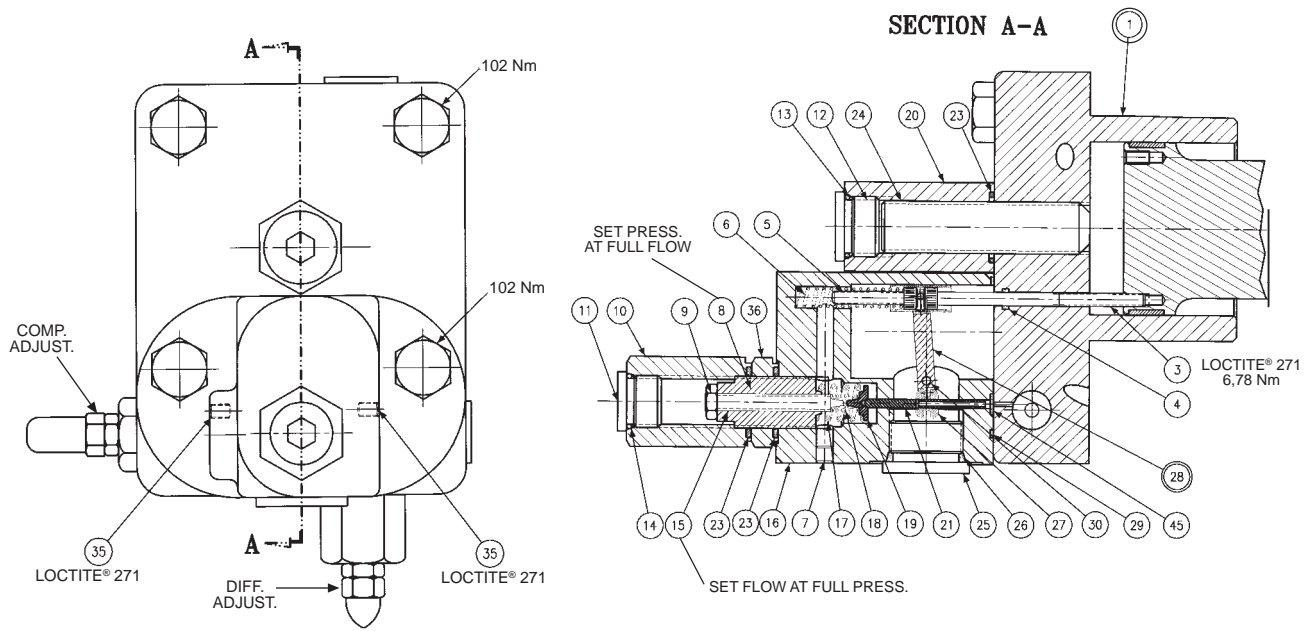
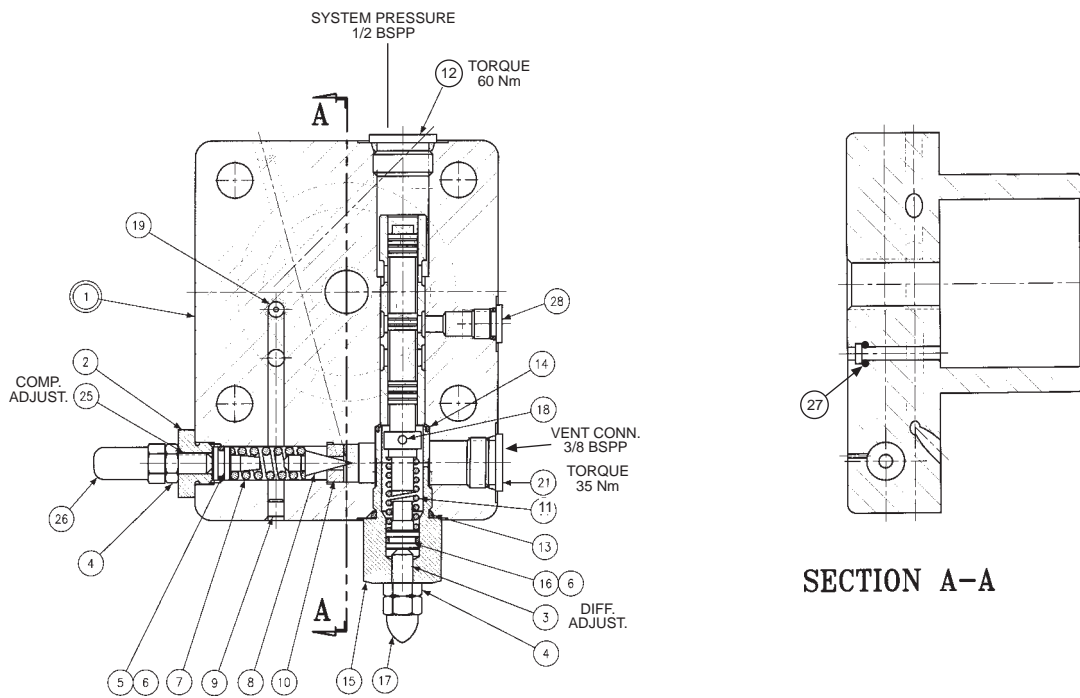

FIGURE 12 – TORQUE LIMITER ASSEMBLY
FIGURE 13
1. **See Figure 12.** Remove 2 screws holding Torque Limiter body (16) to cap assembly (1).
2. Remove all parts from torque limiter body (16) except pin (30) and arm assembly (28). It is not necessary to remove these parts unless broken or worn. Examine parts for wear or damage.
3. Remove screw (3). Examine head for excessive wear, and body for smooth sealing surface with O-ring.
5. Remove cap assembly (1).
6. **See Figure 13** Remove plug (15) and attached parts. Remove spring (11) and spool (18).
7. Remove adjusting plug (2) and attached parts. Remove spring (7) and cone (8).
8. Do not remove sleeve in body (1). Sleeve is pressed into cap and finished to size. If sleeve or cap is worn, replace the cap-sleeve assembly (1).
9. Examine seat (10) for wear. Do not remove unless damaged.
1. **See Figure 13** Install Avseal plugs (9) and orifice (19) in body.
2. Press seat (10) into bore squarely against shoulder in bore.
3. Install spool (18) into bore as shown. Install spring (11) over end of spool. Install O-ring (6) on seal (16). Lubricate and install into plug (15). Install plug (15) into cap. Install screw (3), nut (4) and acorn nut (17). Install plug (12). Torque plugs to 60 Nm. Install plug (21). Torque to 35 Nm. Install plug (28). Torque to 30 Nm.
4. Install O-ring (6) on seal piston (5). Lubricate O-ring and Install cone (8), spring (7) and seal piston (5) into bore in cap (1), being careful that cone enters seat (10). Install adj. plug (2), screw (25), nut (4) and acorn nut (26).
5. Carefully install O-ring (27) in the cap.
8. **See Figure 12.** Apply Loctite® on threads of screw (3), lubricate the shank, thread through the cap into the control piston, and torque to 6,78 Nm
10. Press dowel (30) into body (16), through the link assembly (28), to 6,35 mm below surface. Apply Loctite® to threads of screws (35) and install over dowel (30).
11. While sleeve (27) is engaged into dowel on link (28), slide spool (21) into bore of body (16), and through sleeve (27). Spool (21) must move freely and easily at all positions of the link (28).
12. Assemble remaining parts per drawing. While spring retainer is engaging clevis pin (5) under dowel of link (28), slide the other opening of spring retainer over the top of the screw (3). Attach body assembly (16) to cap (1) and torque screws to 102 Nm.
PARTS LIST FOR FIG. 12
PARTS LIST FOR FIGURE 13